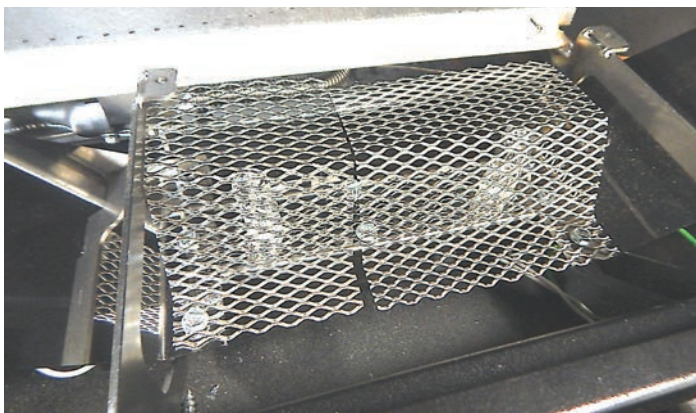

Figure 15
18. When installing in the DVLL36BP fireplace, add (1) Small Diffuser Screen and (1) Large Diffuser Screen over the two outer Bulbs as shown by **Figure 15**. Use (1) #8 X 1/4" Screw to secure each Diffuser screen. Check to make sure the screens are not resting on the bulbs.